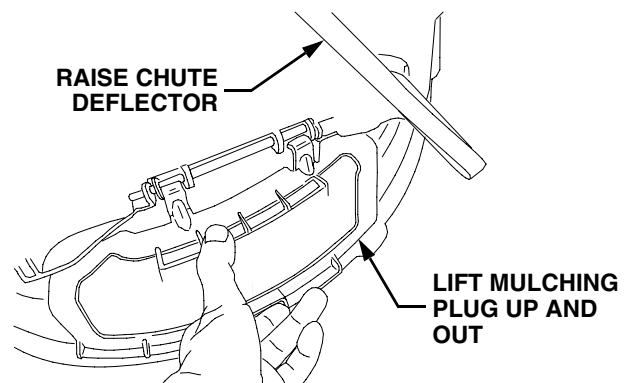

Figure 2
- Raise the chute deflector and lift the mulching plug upward, then outward to remove from the deck. Lower the chute deflector. See Figure 2.